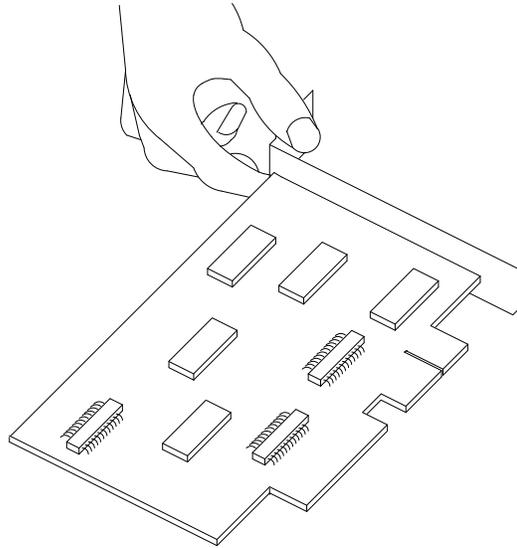
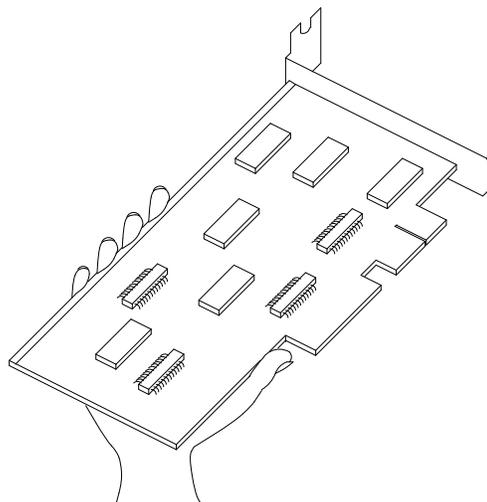

Figure 2-2. How to Hold a Small Circuit Card
Figure 2-3. How to Hold a Large Circuit Card
- Handle a circuit card by the faceplate or side edges only (Figure 2-2 and Figure 2-3).